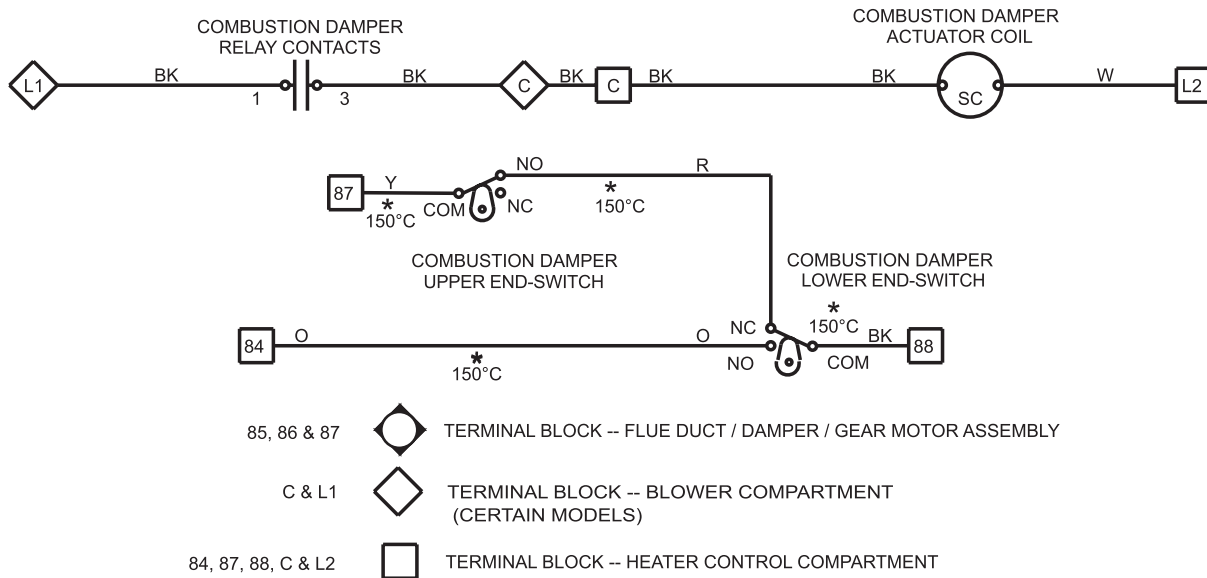

Figure 9. Typical Existing Damper Actuator Wiring Diagram
3. Disconnect existing solenoid actuator wiring (see Figure 9):